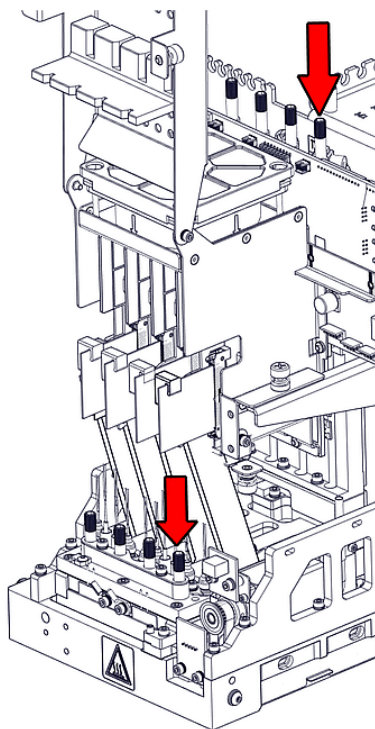

Figure 4-94 Releasing the print head
19. Tighten the upper and lower screws that secure the print head in the print block (see Figure 4-94 on the previous page).